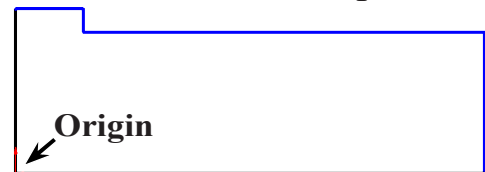

Fig. 2
Step 3. Click **Line**  (L) on the Sketch toolbar.
Step 4. Sketch 6 lines with **Origin**  in the bottom left corner, **Fig. 2**.